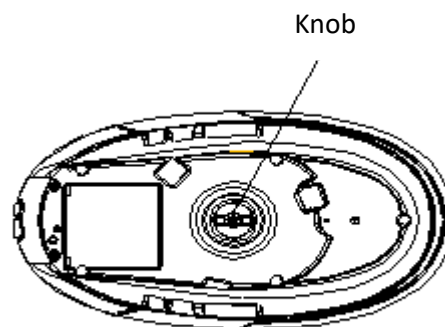

Fig. 4
3. To remove the mineral deposits collecting at inner steam generator, follow the operation as below: firstly reverse the unit base and place it on a level surface horizontally, make sure that the unit base shall be placed stably, then cover a towel on the knob and rotate the knob with the towel to detach it, after it, drain the steam generator, then refill the steam generator with clean water to clean it well (see Fig. 4).